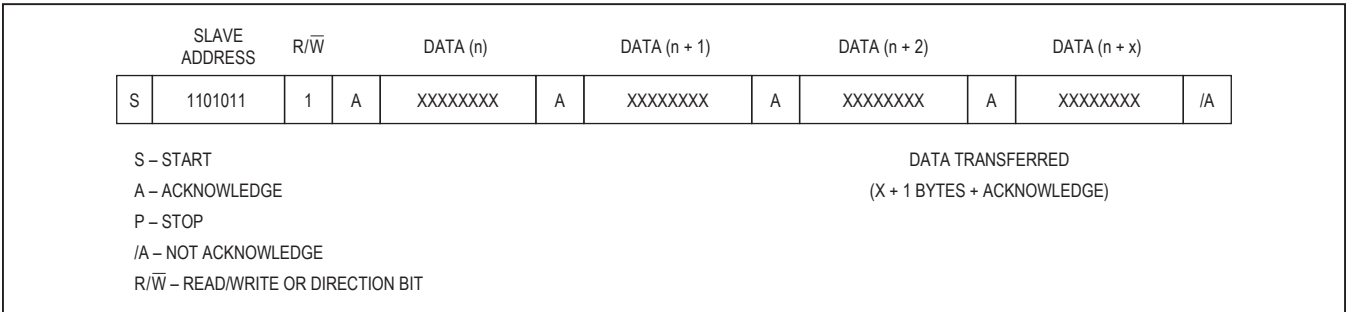

Figure 8. Data Read—Slave Transmitter Mode
**Slave Transmitter Mode (Read Mode):** The first byte is received and handled as in the slave receiver mode. However, in this mode, the direction bit indicates that the transfer direction is reversed. Serial data is transmitted on SDA by the DS1682 while the serial clock is input on SCL. The slave address byte is the first byte received after the master generates a START condition. The address byte contains the 7-bit DS1682 address, followed by the direction bit ( $R/\overline{W}$ ). After receiving a valid slave address byte and direction bit, the DS1682 generates an acknowledge on the SDA line. The DS1682 begins to transmit data on each SCL pulse starting with the register address pointed to by the register pointer. As the master reads each byte, it must generate an acknowledge. The register pointer increments after each byte is read. The DS1682 must receive a “not acknowledge” on the last byte to end a read (Figure 8).